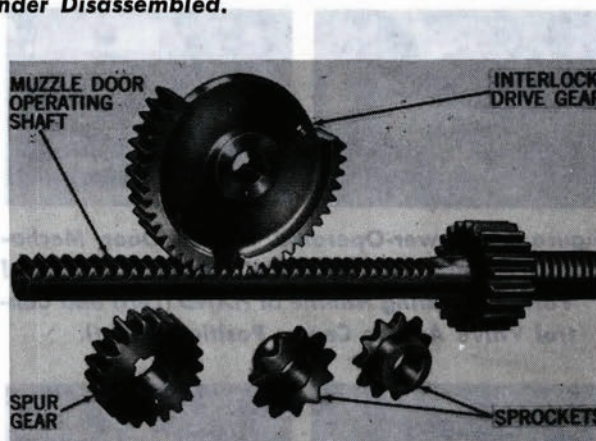

Figure 60—Breech End of Muzzle Door Operating Shaft With Gears and Sprockets for Interlock Chain.
**Interlock Features.** As the shaft moves fore-and-aft, teeth on its upper breech end engage an interlock drive gear at the lower end of an interlock chain, figure 60. Two turnbuckles in the interlock chain permit adjustment of the interlock mechanism relative to the muzzle door operating shaft. The chain connects at the top to a gear which engages (through an opening in the interlock sleeve) teeth on the under side of the outer slide operating shaft. The fore-and-aft movement of the muzzle door operating shaft is transmitted in the opposite direction to the outer slide operating shaft to move the outer slide. As it moves, a groove in its outer